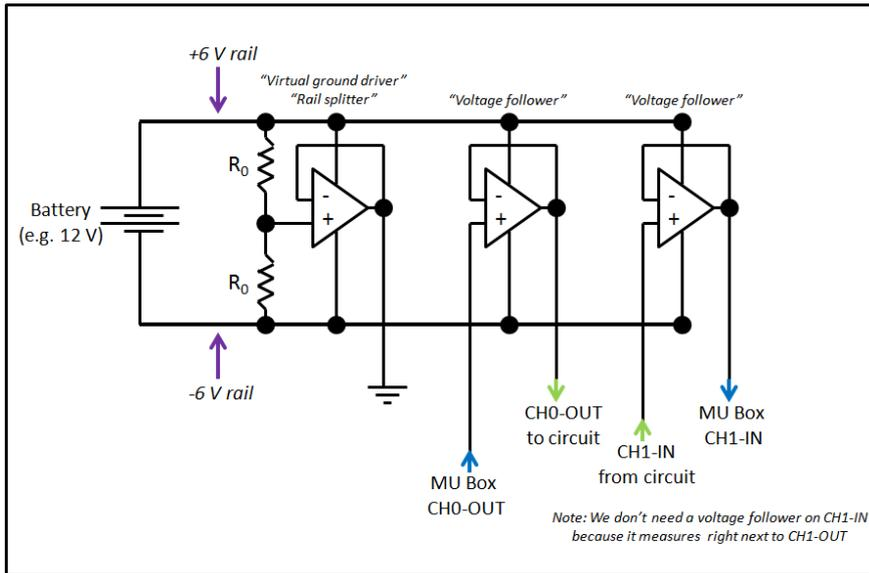

Figure 4: Circuit to power the op-amps. We split the battery voltage to power the op-amps using a voltage divider (e.g.  $R_0 = 1[\text{k}\Omega]$ ).
Your breadboard will have two main interconnected circuits: A circuit to power your op-amps, and a circuit to measure a test impedance. Please study both parts of the circuit (Figs. 4 and 5) before you begin, so you can plan you breadboard accordingly.
1. Op-Amp circuit: Build the Op-amp breadboard that we will use to measure the loudspeaker impedance, as described below and shown in Figure 4. The purpose of the Op-amps is to isolate the measurement from the finite impedance of the MU box. The circuit diagrams of the MU box are provided in the 'DOC' folder of the software package. Based on these circuit diagrams, one may determine the Thévenin source impedance of the output voltage, and the input (load) impedance of the input circuits. There are two critical op-amps, one for output and one for input. The first input does not need an isolation Op-Amp since the output of the the first Op-Amp is zero ohms.
- (b) Drive the circuit from CH0-OUT of the MU-box. *NOTE: If you do not use an Op-amp with a low impedance output (0 [ohms]), as described in Fig. 4, your results will not be as good as they could be.*